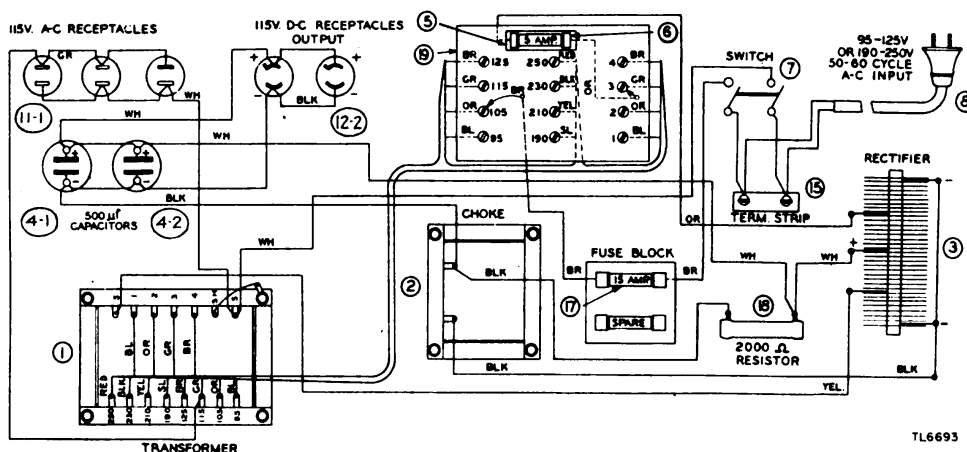

FIGURE 8.—Rectifier RA-87, wiring diagram.
16. Locating trouble.—*a. Procedure.*—Make a voltage check of the various circuits starting at the a-c input and working toward the output. Normal voltages at different load currents are given in paragraph 17. If voltage checks are not possible or if any doubt exists as to the part causing trouble, check resistances for values indicated in paragraph 18. See following subparagraph *b* for possible causes of trouble. When the defective part has been determined, replace it as indicated in paragraph 19. The wiring diagram, figure 8, will be found helpful in tracing circuits and finding connections.